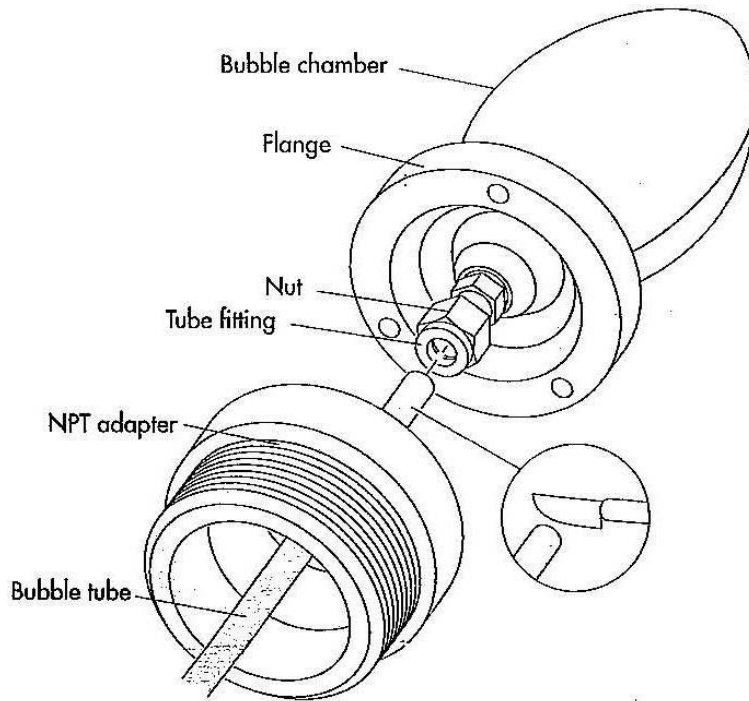

FIGURE 7-3. Connection of the Bubble Tube
6. Detach the NPT adapter from the bubble chamber by unscrewing the three hexagonal screws of the bubble chamber's flange (see FIGURE 7-3).